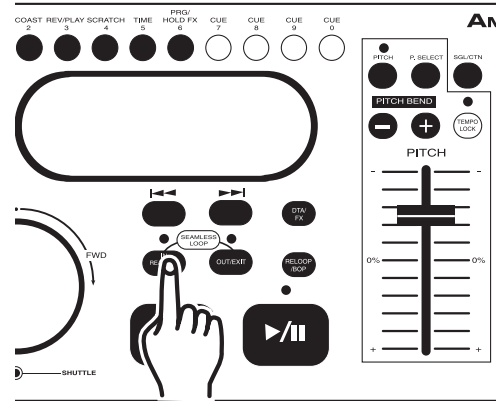

Figure 18
A cue point is the exact point playback will begin when the PLAY/PAUSE BUTTON (29) is pressed. A cue point may be anywhere on a disc or in a track. You may set and store up to five independent cue points per disc. Four cue points are stored in the CUE MEMORY BUTTONS (6) and one in the IN REAL-TIME CUE BUTTON (26). Once a cue point is set it may be recalled at any time during normal playback. Figures 18 and 19 will detail the procedures for setting your custom cue points. There are two ways to set a CUE point:
- 1) Press the IN REAL-TIME CUE BUTTON (26) on the fly (while a disc is playing). This will set a CUE Point without music interruption. Once this point is set, you may return to this point at any time by pressing either the CUE BUTTON (27) or the RELOOP/BOP BUTTON (30). Pressing the CUE BUTTON (27) will stop playback and return the disc in cue mode, pressing the RELOOP/BOP BUTTON (30) will return the disc to cue point without music interruption and continue playback from that point.